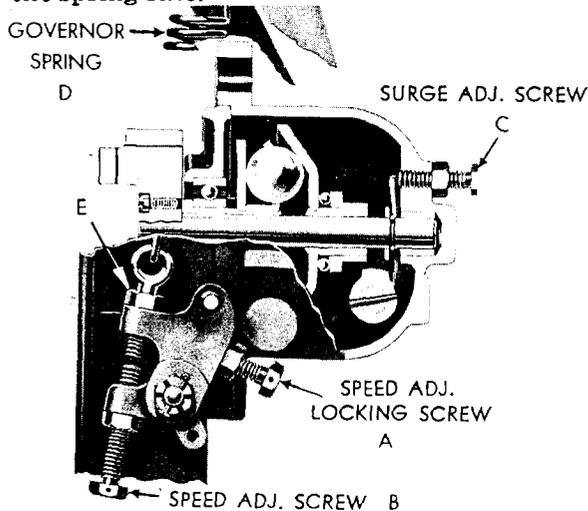

Figure 88 — Governor
- 1 — Start the engine. While it is warming up, back out surge adjusting screw "C" (Figure 88) so it will have no effect.